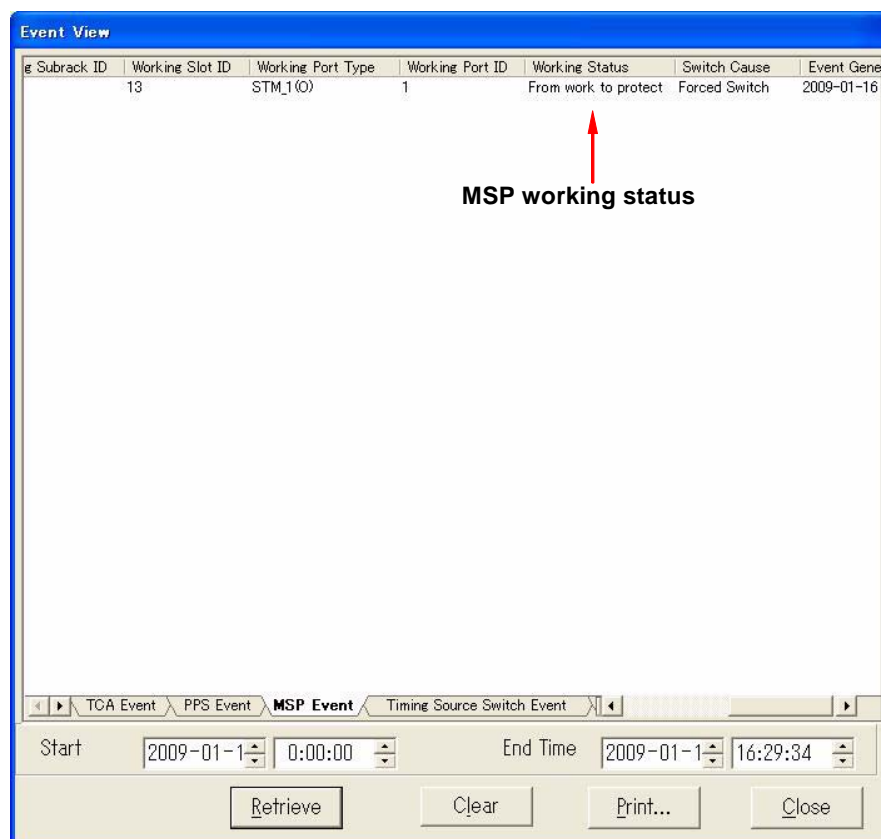

Fig. 4-4-26 Event View Dialog Box with MSP Event Tab
- 4 Click the **MSP Event** tab. The window shown in *Fig. 4-4-26* appears: